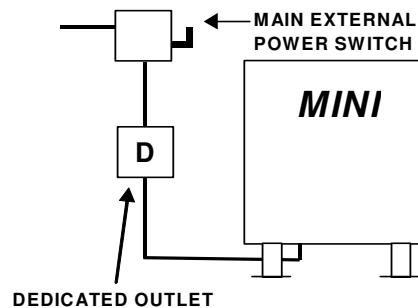

Figure 2-3
- c. A main external disconnect switch should be installed near the MINI as shown in Figure 2-3.
- The fuse or breaker and disconnect switch combination is called the “Main External Power Switch” (Figure 2-3).
- e. Install a dedicated outlet for the MINI electrical plug (Figure 2-3). (Plug not supplied.)